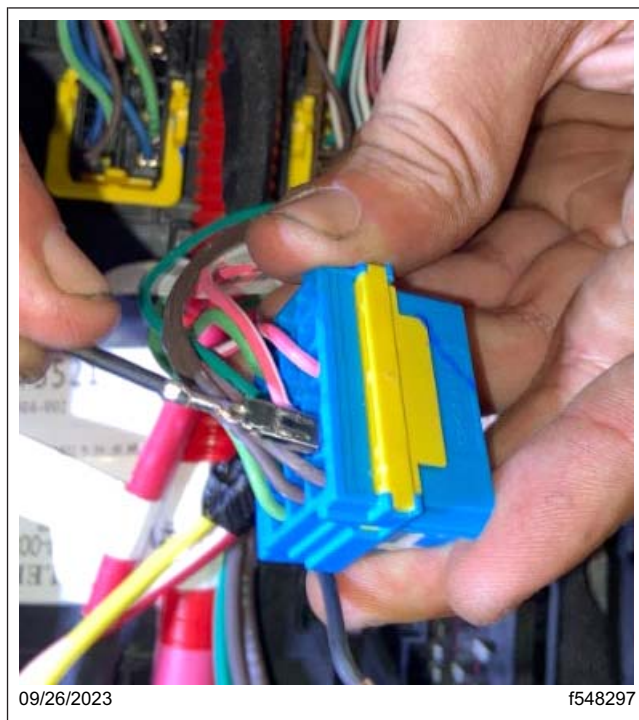

Fig. 29, Inserting the Shorter Black Wire into Cavity 6 of the X2 Connector
- 10.4 Insert the shorter black wire, previously routed to the SSAM X2 connector in step 8, into cavity 6 of the SSAM X2 connector. See Fig. 29.